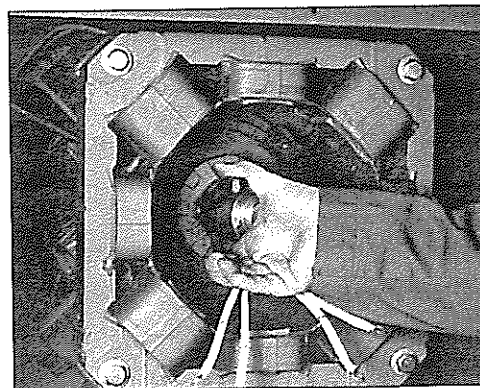

Figure 6-17
2. Remove the snap ring which holds the PMG rotor in place on the shaft (figures 6-17 and 6-18).